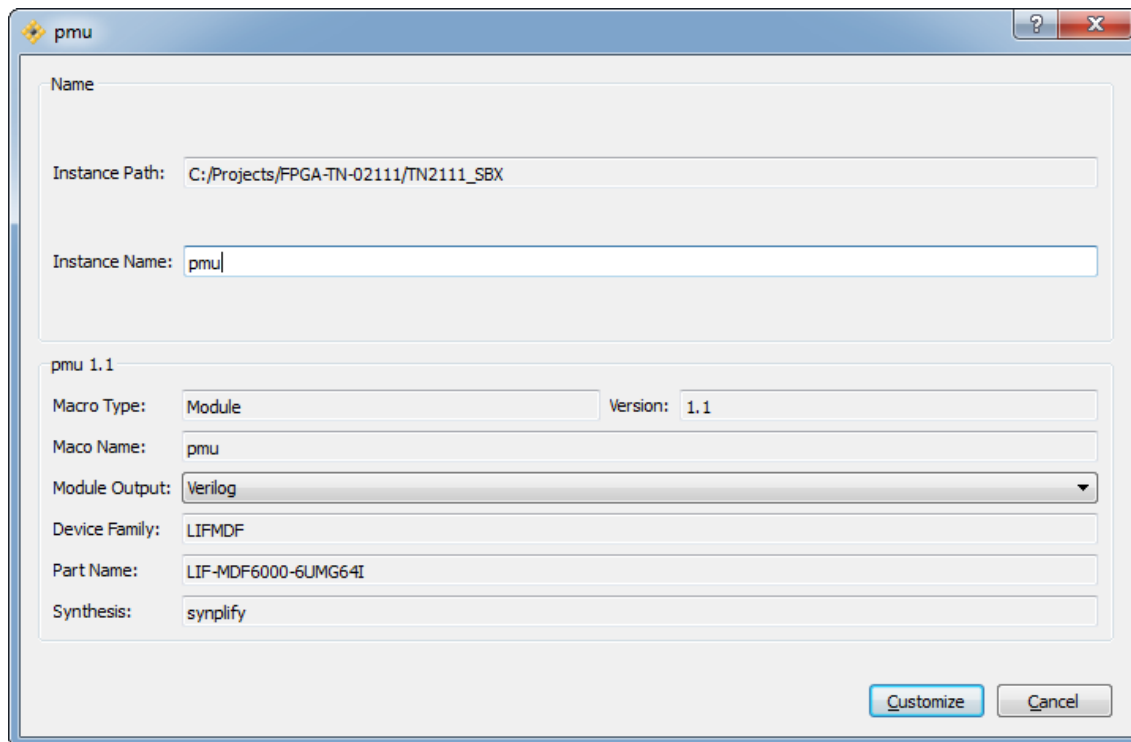

Figure 2.8. PMU Instance Name Options Window
- Double click on **pmu** to open another window (Figure 2.8) that requires you to provide an instance name. We use *pmu_test_instance* as our instance name for example.